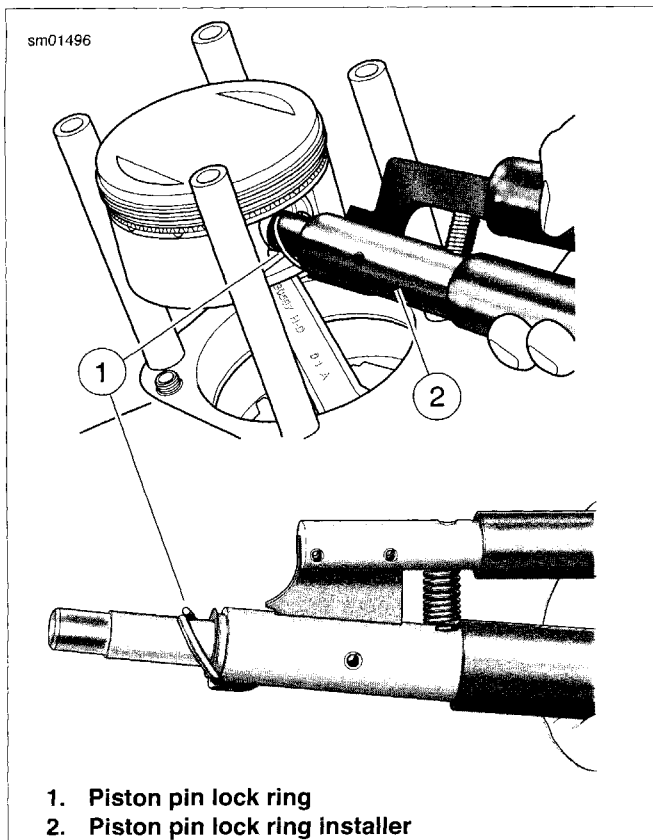

Figure 3-51. Removing Piston Pin Lock Ring
- See Figure 3-51. Remove piston pin lock ring as follows: